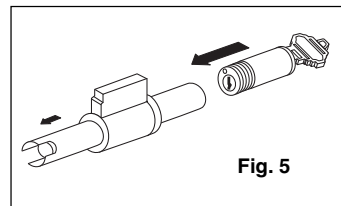

Fig. 5
- With new key and cylinder plug rotated approximately 1/8 turn to the left or right, push cylinder plug against plug follower. Remember to maintain slow, consistent pressure against plug follower. (Fig. 5) This pressure will keep top pins and springs from popping loose. If any pins or springs do fall loose, remove plug follower and cylinder plug from cylinder housing and refer to step XX for instructions on reinserting top pins and springs.
1. Remove key from cylinder plug. Rotate cylinder until pins drop out (Fig. 5).